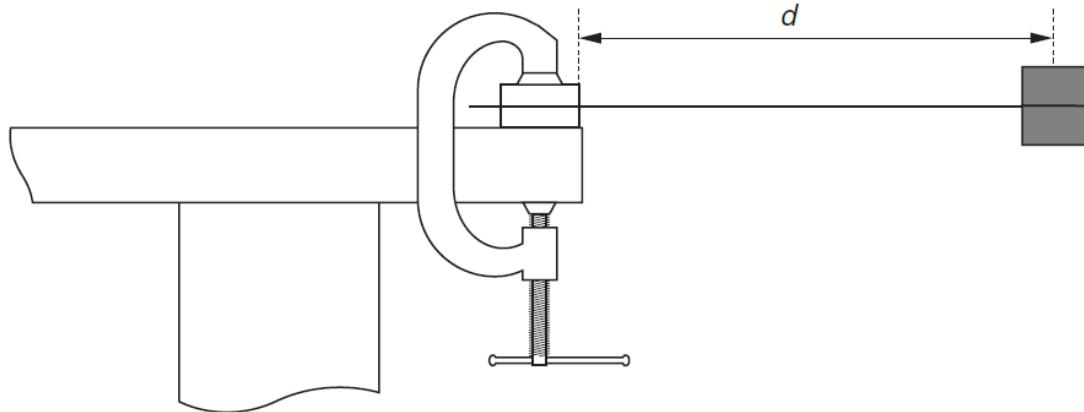

Fig. 1.2
- (b) (i) Measure and record the distance d from the centre of the masses to the edge of the blocks as shown in Fig. 1.2. You will need to hold the blade horizontal when you make the measurement of d .